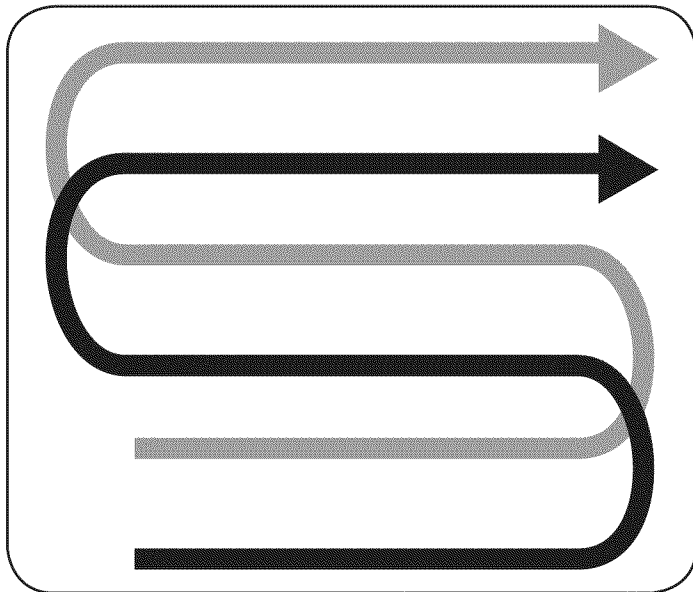

Figure 19
- When preparing a seedbed, go over the same path twice in the first row, then overlap one-half the tiller width on the rest of the passes. See Figure 19.